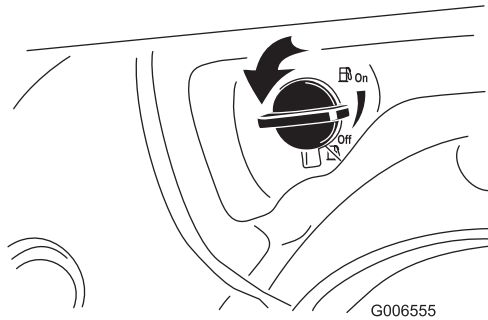

Figure 20
2. Turn the fuel shutoff valve 1/4 turn counterclockwise to open it (Figure 20).